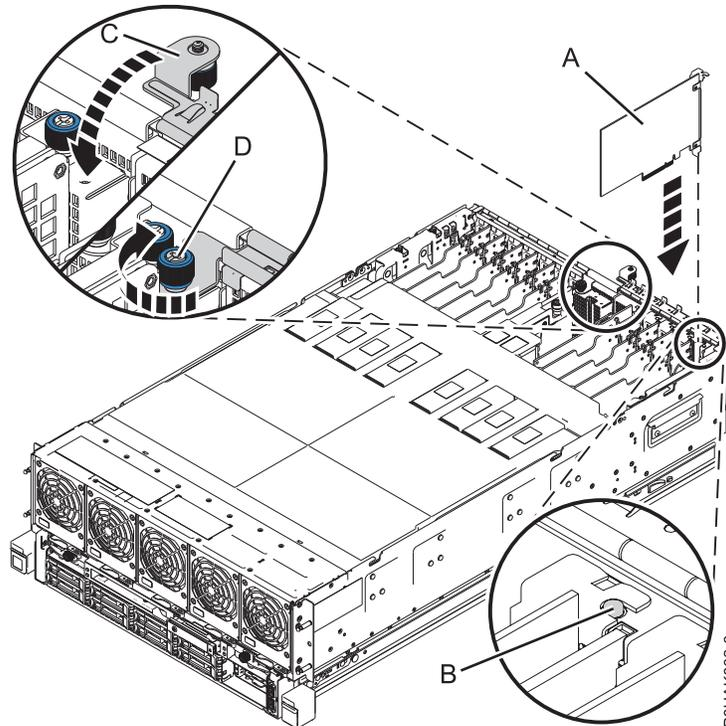

Figure 18. Installing or replacing a PCIe adapter in the 8408-44E or 8408-E8E system
7. Carefully grasp the adapter by its top edge or tailstock, and align the adapter with the slot and its connector on the system backplane (**A**), as shown in Figure 18 on page 27.
9. Ensure that the tailstock notch engages with the pin on the system's chassis. See (**B**) in Figure 18 on page 27.
10. Close the I/O retention bracket (**C**) by rotating it down and then tighten the captive thumbscrew (**D**) until it is secured to the system's chassis. See Figure 18 on page 27.